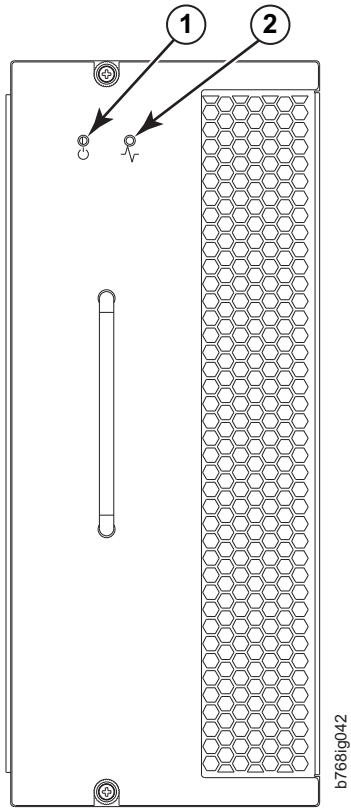

Figure 29. Blower assembly LEDs
1. Check the LED indicators on the blower assembly (see Figure 29 on page 76). The LED patterns may temporarily change during POST and other diagnostic tests; for information about how to interpret the LED patterns, see Table 11 on page 76. The system has three blower assembly modules. Be sure to check each module.